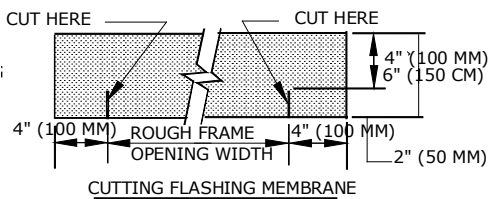

Fig 11.2
- Cut a strip of self-adhering flashing to a width of 12 in. (30cm) and a length equal to that of the rough opening width plus 8 in. (20cm). Make two 2 in. (5cm) long cuts into flashing even with jams (Fig. 11.2).